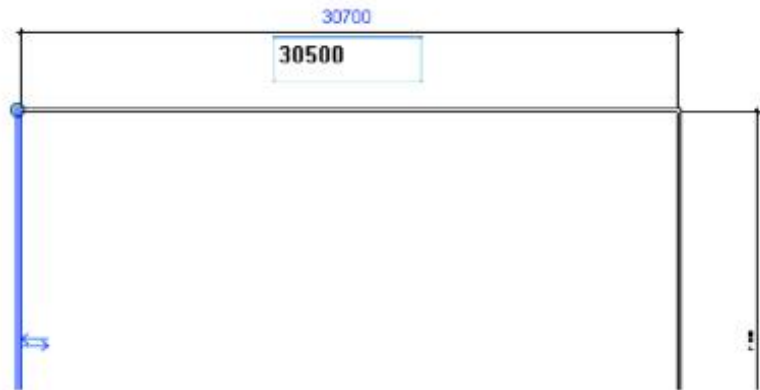

Figure 2–21
9. Select either vertical wall. The horizontal dimension becomes active (changes to blue). Click the dimension text and type **30500**, as shown in Figure 2–21.